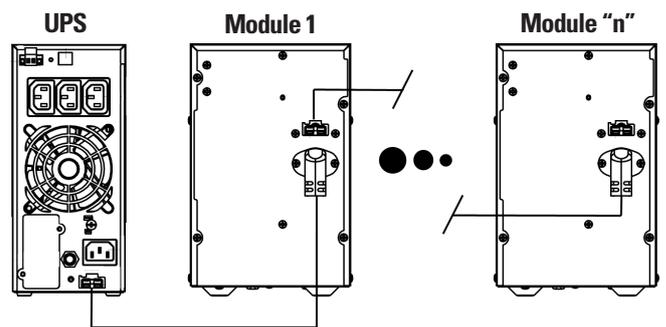

Fig. 11. Connection among the equipment and "n" battery modules.
- To connect the equipment with the battery module, use the cable trunk supplied with the module and connect it between both units and through the connectors. When more than one battery module is supplied for one equipment, the connection among the modules will be done through the cable trunk supplied in the second battery module. Figure 11 shows as an example, the connection of a **SLC-TWIN PRO2 B1** with "n" battery modules. Less the rear view of the model, it is applicable to all the range stated in this manual. Connect the available modules depending on each case.